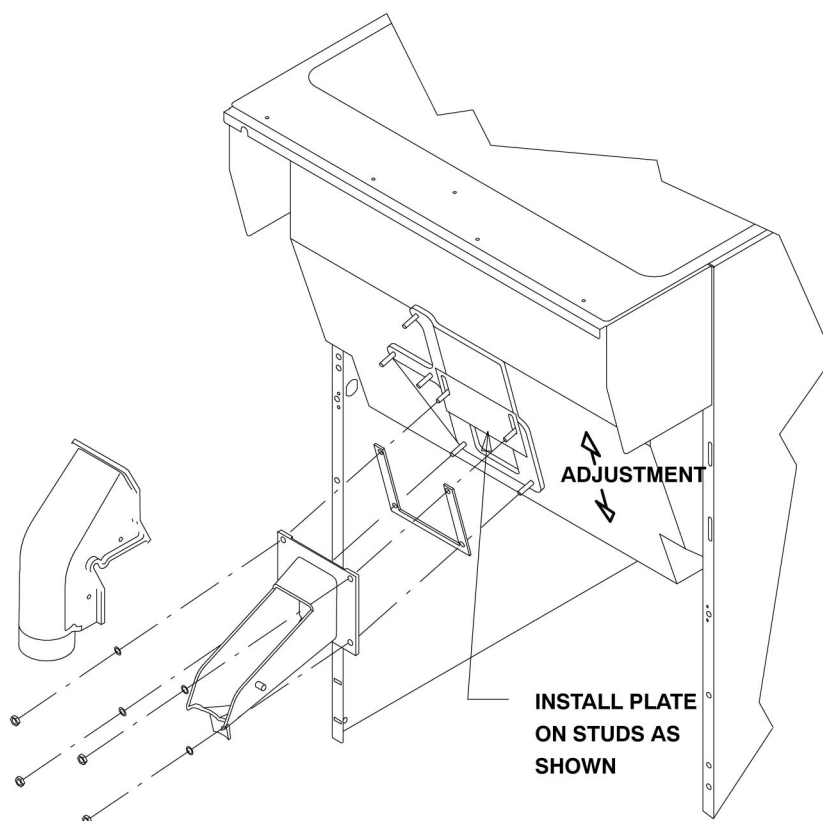

Figure 2. GATE RESTRICTOR PLATE
3. DRIP TRAY DRAIN ASSEMBLY (see Figure 2): Route the drain tube to an open drain with the end of the tube above the "flood" level of the drain. Use the tubing, fittings, clamps, and insulation provided with the Dispenser to assemble the drain. The completed drain line *must* pitch continuously downward and contain no "traps" or improper drainage will result.